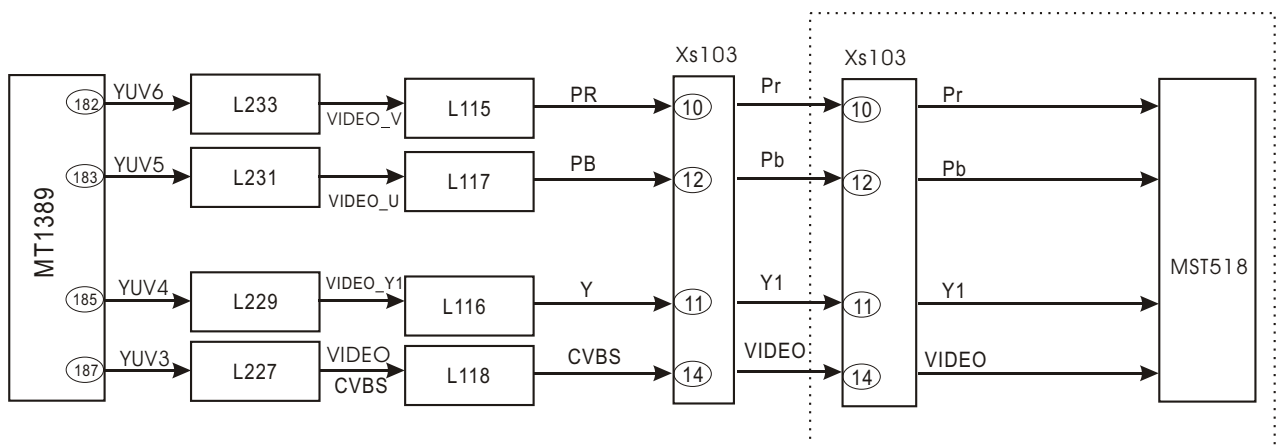

Figure 3.2.11.1 Video signal flow chart
1. Video signal flow chart diagram is shown as in the following figure 3.2.11.1 :